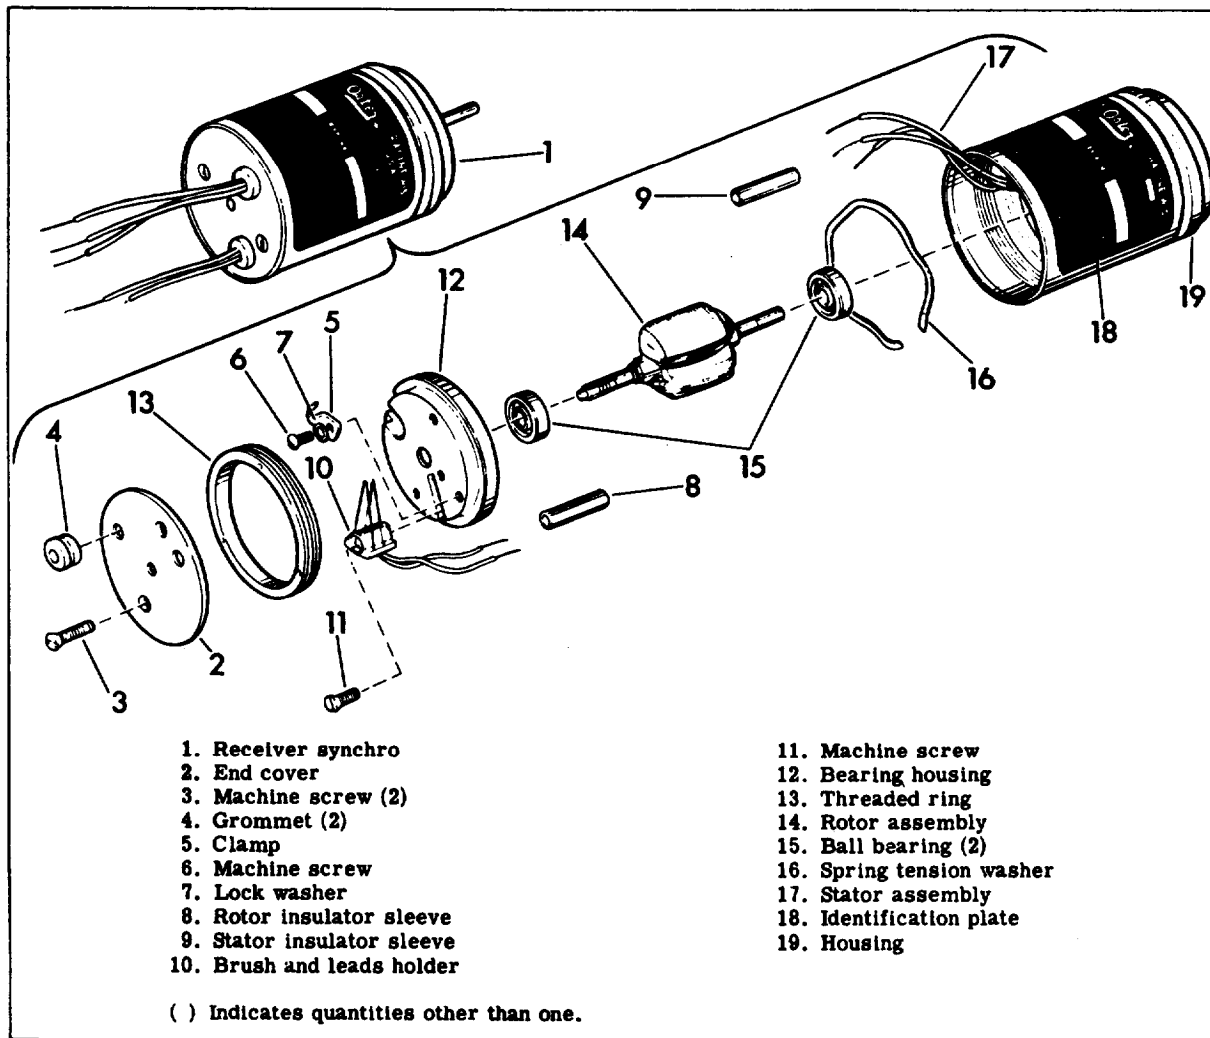

Figure 2-4. John Oster Receiver Synchro, Exploded View
2-14. DISASSEMBLY OF JOHN OSTER RECEIVER SYNCHROS. (See figure 2-4.)
#### 2-25. REASSEMBLY OF JOHN OSTER RECEIVER SYNCHROS, (See figure 2-4.)
a. Reassembly of the John Oster Receiver Synchro is essentially the reverse of disassembly. Refer to the instructions prescribed in paragraph 2-14 and to the index sequence of figure 2-4 to reassemble this synchro.
b. Threaded ring (13) must be tightened down (using spanner wrench (58534) in housing (19) until the shaft of rotor assembly (14) has 0.0015-inch end play with a one-ounce load and 0.004-inch end play with a one-pound load.
c. Particular care must be taken that the brushes on brush and leads holder (10) have correct alignment and tension in the clip ring grooves of rotor assembly (14).